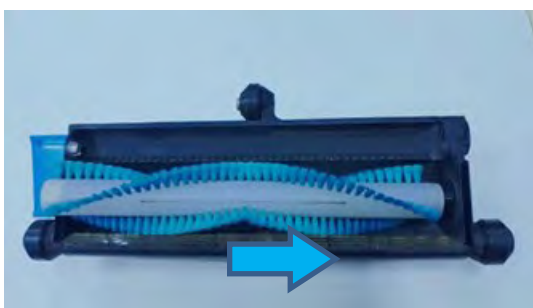

Fig. 5
5. Press the roller brush towards the left and upwards to remove it (Fig 5 & 6).